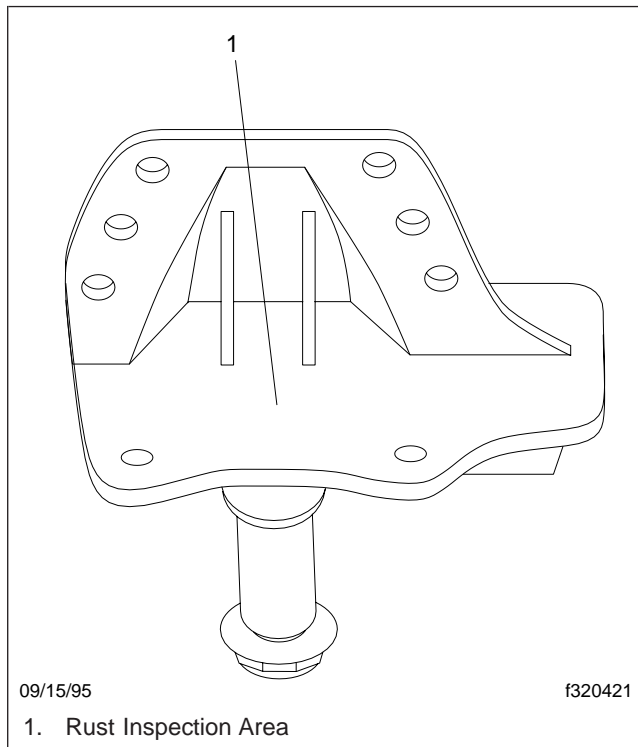

Fig. 16, Hendrickson RS Series Rust Inspection
4. Visually inspect each frame hanger for severe rust on the horizontal mounting flange adjacent to the vertical drive pin area. See **Fig. 16**.